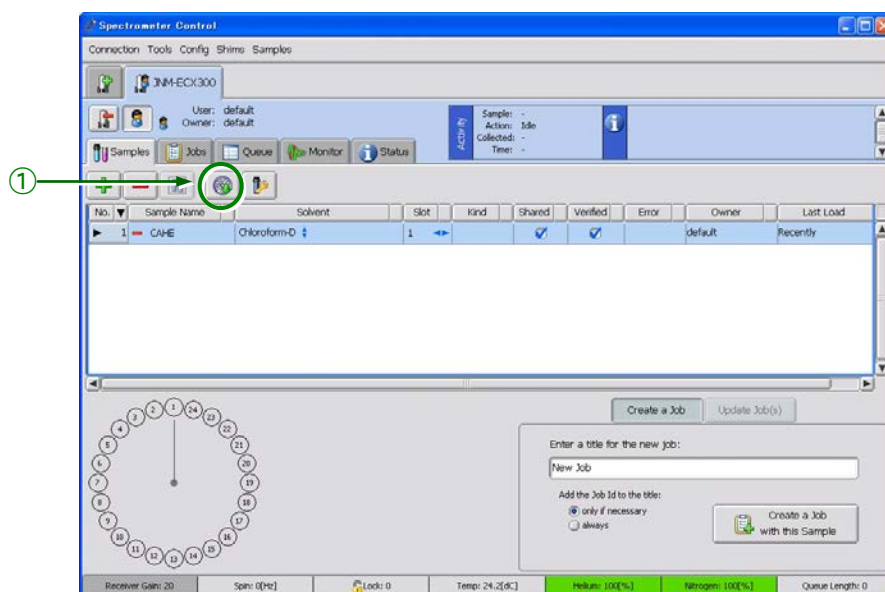

Fig. 1.11 Samples tab (when an auto sample changer is installed)
2. Click the **Samples** tab and select the sample that you want to insert, then click the **Load Sample**  button (Fig. 1.11 ①).